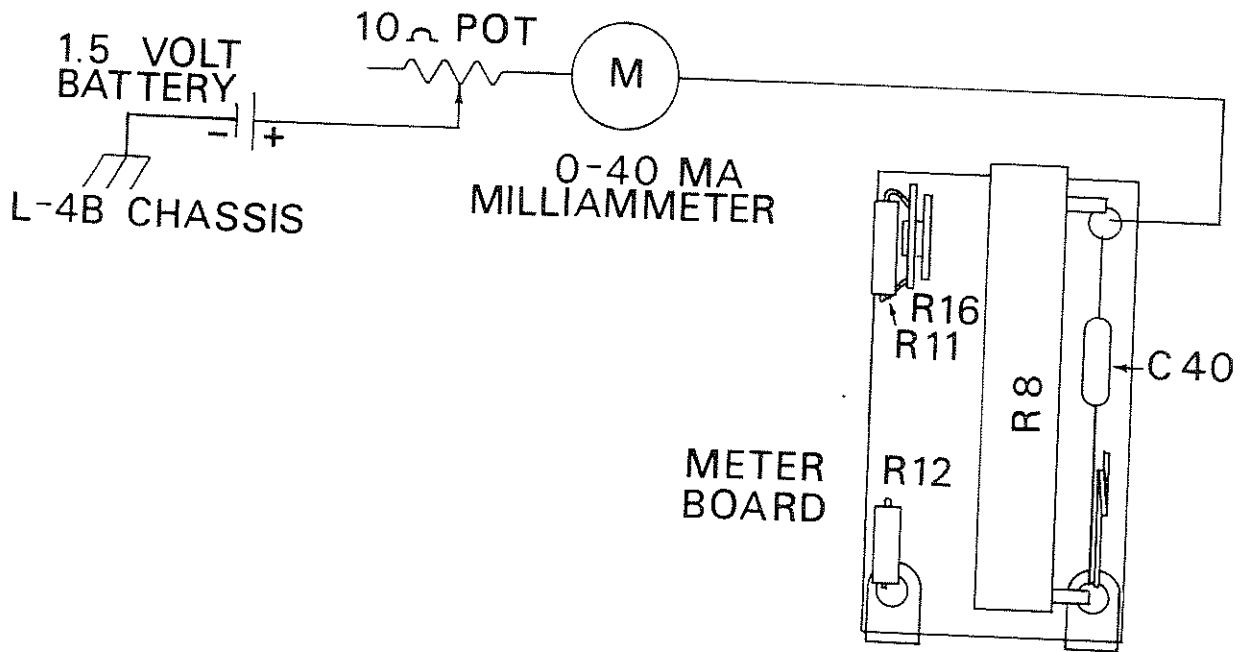

Figure 5-3. Connections for Grid Current Meter Calibration
3. Make the connections shown in figure 5-3.